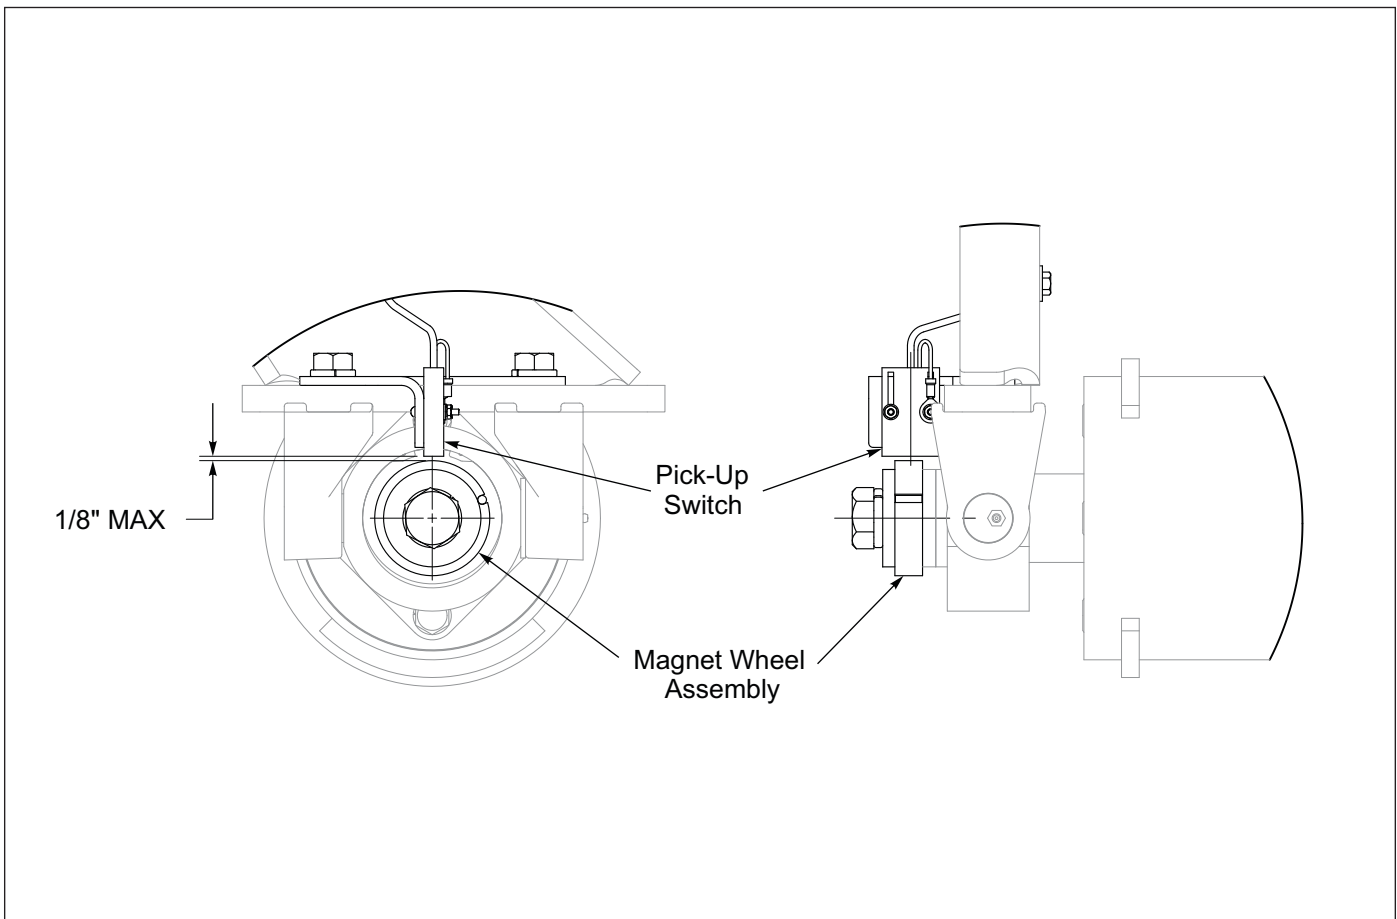

Figure 2-25: Acre Meter Switch Side View
4. Adjust the Acre Meter Switch so the center line of magnet wheel and pickup switch are horizontally and vertically aligned with a maximum 1/8" between magnet wheel and pickup switch. Now firmly tighten all screws. **See Figure 2-25.**